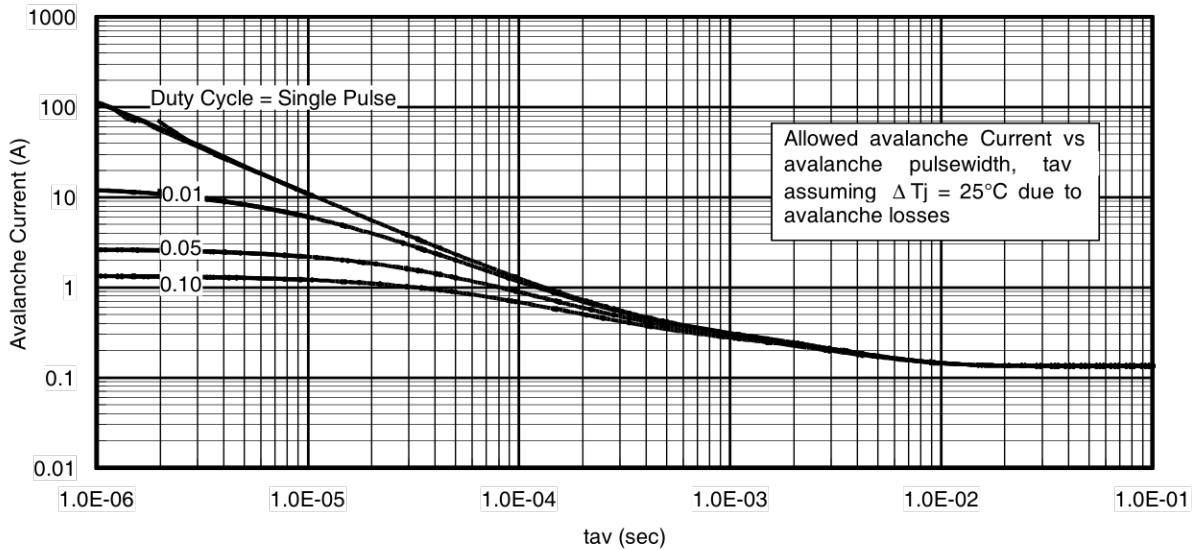

Fig 14. Typical Avalanche Current Vs. Pulsewidth
- ① Repetitive rating; pulse width limited by max. junction temperature.
- ② Starting $T_J = 25^\circ\text{C}$, $L = 1.62\text{mH}$, $R_G = 25\Omega$, $I_{AS} = 11A$.
- ③ Pulse width $\leq 400\mu s$; duty cycle $\leq 2\%$.
- ④ R_{θ} is measured at T_J of approximately 90°C .
- ⑤ Limited by T_{jmax} . See Figs. 14, 15, 17a, 17b for repetitive avalanche information.
Notes on Repetitive Avalanche Curves , Figures 14, 15:
7. ΔT = Allowable rise in junction temperature, not to exceed T_{jmax} (assumed as 25°C in Figure 14, 15).